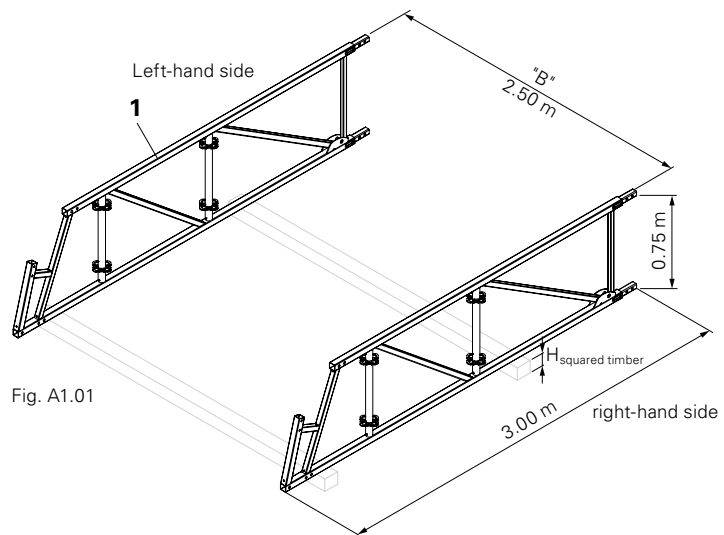

Fig. A1.01
- If a tension system is required, use squared timber as a means of support with height " $H_{\text{squared timber}}$ " ≥ 16 cm. (Fig. A1.01)
1. Place eave element (1) on two cross-wise positioned squared timbers.
- Squared timbers are used as support during assembly. (Fig. A1.01)